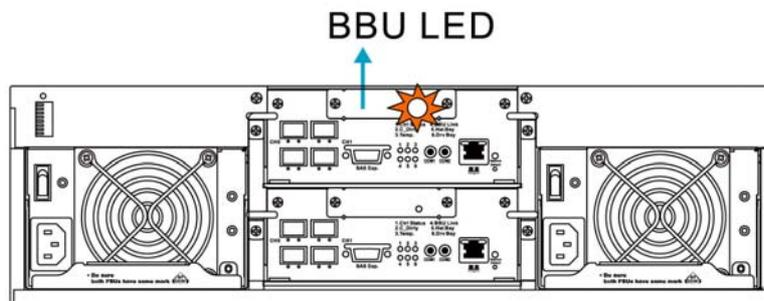

Figure 2-13: BBU LEDs
**Step 4.** The LED should start flashing to indicate that the BBU is being charged. When the BBU is fully charged, the LED will turn off. (See *Figure 2-13*)